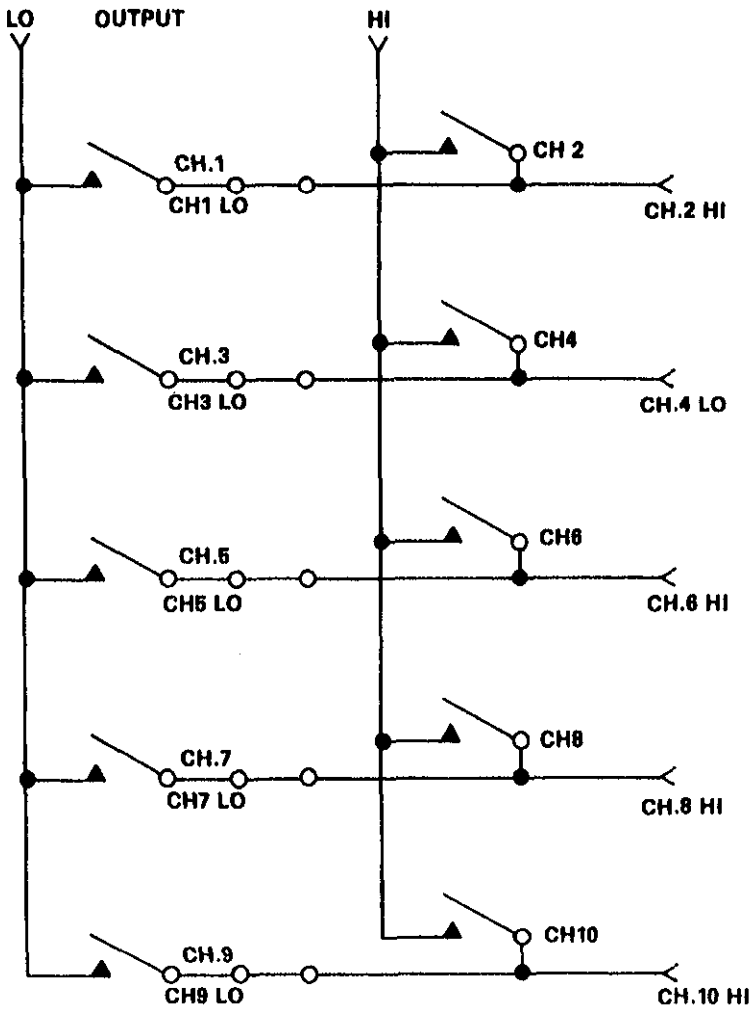

Figure 2. 2 by 5 Matrix
C. Matrix Card—The Model 7056 can be used as a 1 by 10 or a 2 by 5 matrix card. The Model 7056 should be first set up as a voltage scanner card. To use it as a 1 by 10 matrix card, the output HI or output LO can be used to switch to any of the 10 input HIs or input LOs. For use as a 2 by 5 matrix card, refer to Figure 2. This allows the user to switch the output HI or output LO to any of five inputs. Figure 2 shows the 2 by 5 matrix setup.